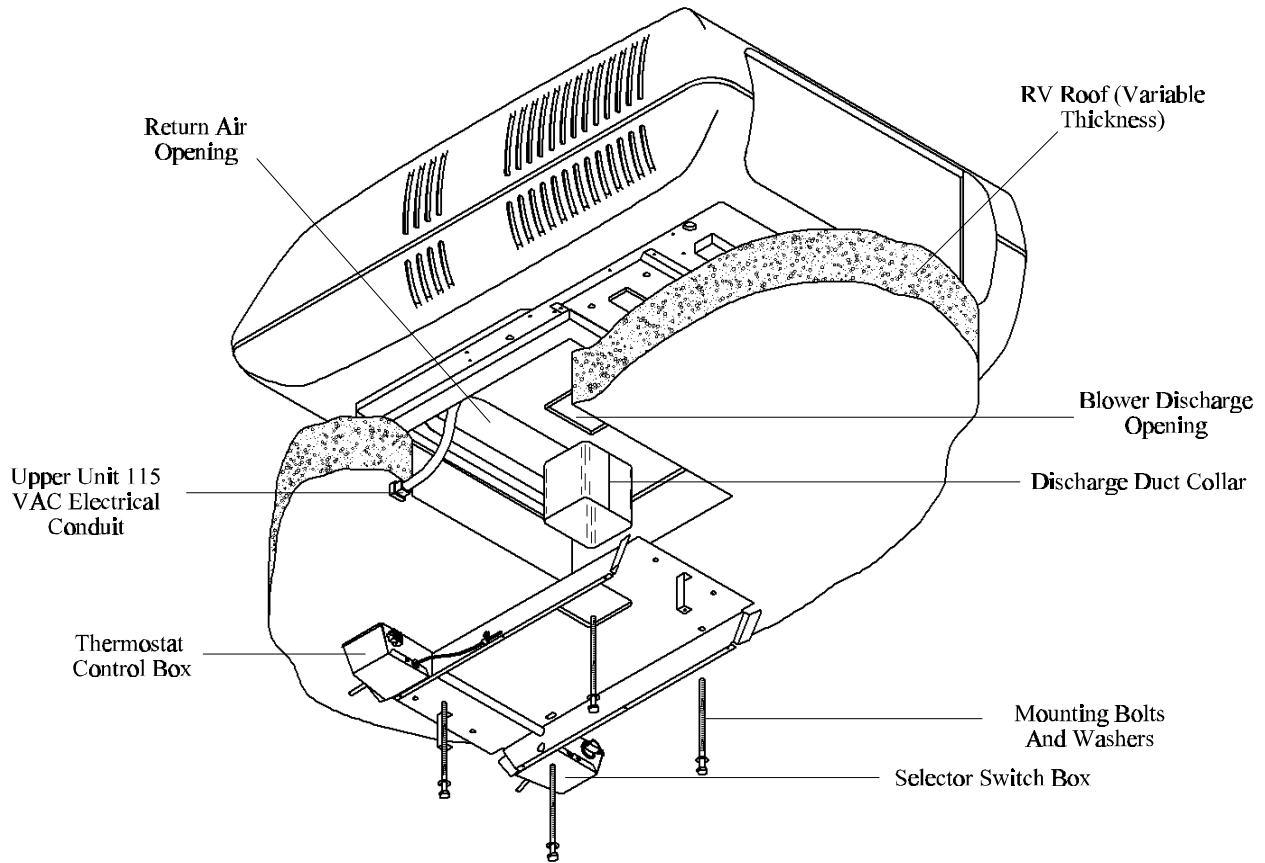

FIGURE 7
conditioner. Secure the ceiling assembly plate to the roof top air conditioner with the mounting bolts/washers. The mounting bolts/washers must be started (threaded) by hand to avoid cross-threading. **DO NOT START THE MOUNTING BOLTS/WASHERS WITH AN AIR GUN.** Mounting bolts should be tightened evenly. A rotation tightening procedure (similar to car tire rim mounting) is essential for proper gasket compression. Do not initially overtighten each bolt. RV Products recommends at least two complete rotation tightening passes. The bolt tightening process is complete when the roof top air conditioner basepan has been evenly compressed 50%. Figure 7 shows a typical four (4) bolt installation.